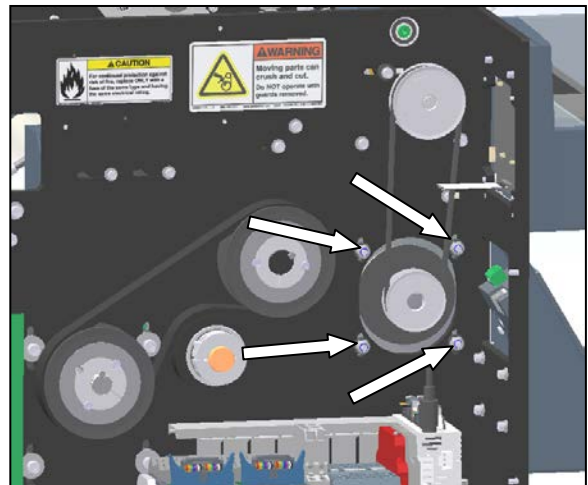

Figure 3-351. File Feed Drive Motor Mounting
7. Remove the film feed drive motor from the machine. Unplug the cable, and remove the four mounting screws (Figure 3-351).